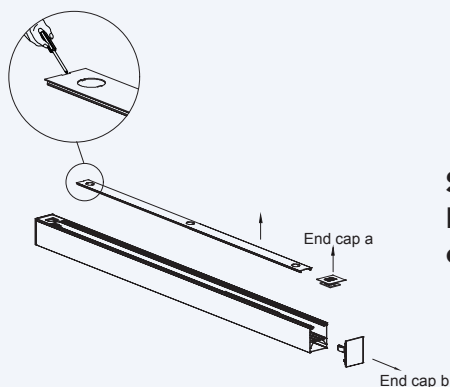

Figure 1
**Step 1 :** Use a screwdriver to lift the top cover ; Remove the magnetic end cap a and the spring end cap b by hand, as shown the left Figure 1